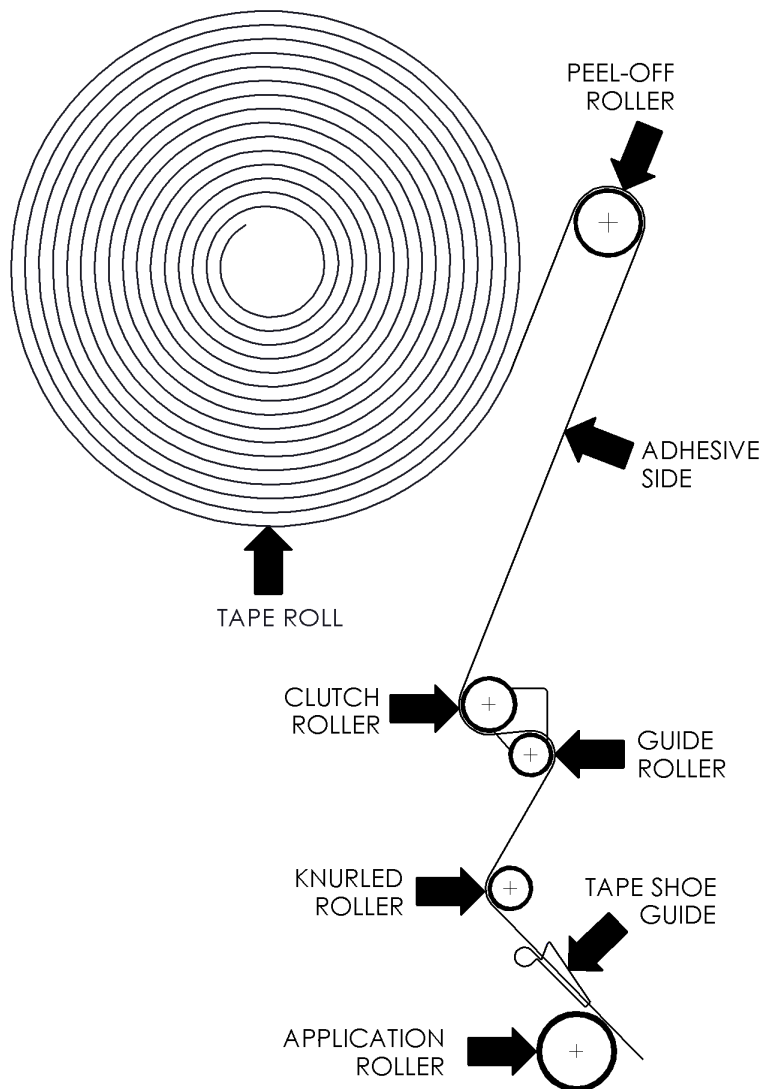

Figure 5-4
The illustrated label shown in **Figure 5-4** is attached to the operator side plate of each tape head. The label provides operators and service personnel the proper method of threading a new roll of tape through the tape head.
3. Push the roll of tape onto the mandrel with the adhesive side facing away from the peel Off Roller (refer to **Threading Diagram on Figure 5-4** under Tape Threading section in this manual) until the core sits against the mandrel flange. The hooked red sprag should latch onto the tape core. While removing the tape, this should be pressed down to free the tape.